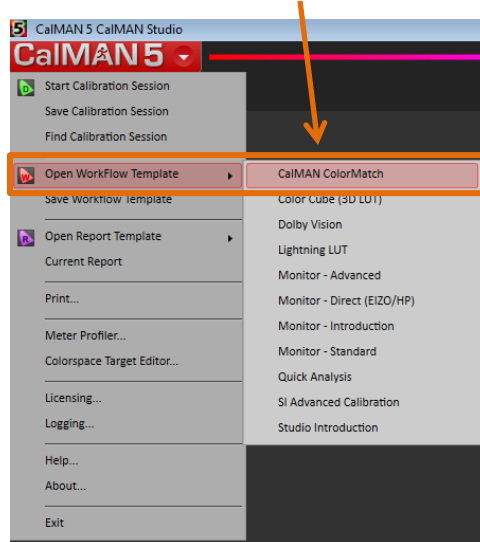

Figure 2. CalMAN main menu.
- a. From the main menu (Figure 2), select *Open Workflow Template*.